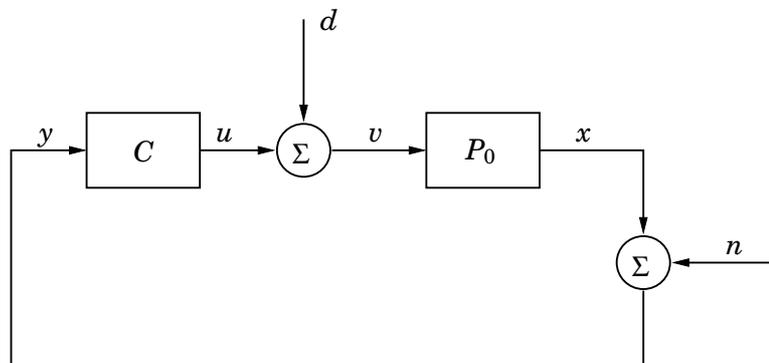

Figure 11.1 The block diagram of the closed loop system in 11.1.
11.1 Consider the control system in Figure 11.1, designed around the SISO system P_0 .